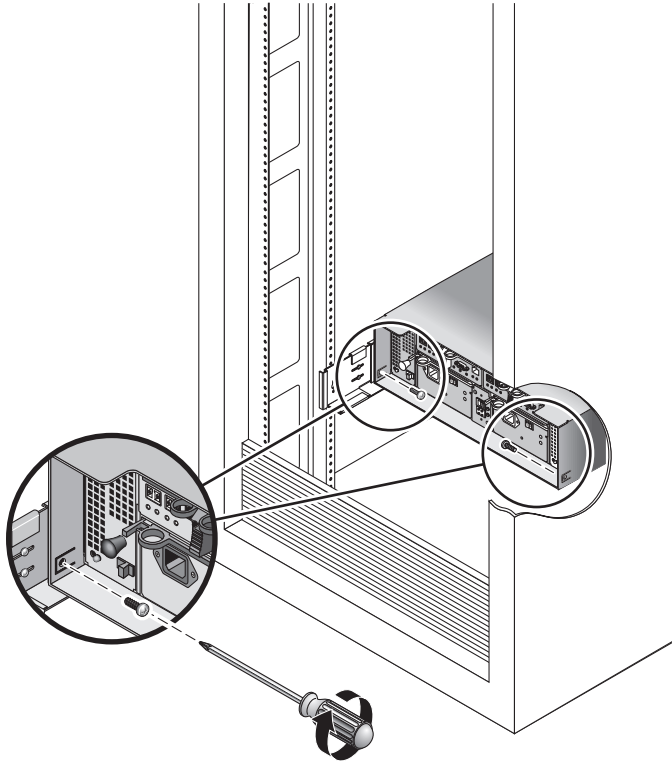

FIGURE 2-18 Securing the Array to the Back of the Cabinet
6. At the back of the tray, install and tighten two 8-32 screws (one per side) to secure the back of the array to the cabinet (FIGURE 2-18).